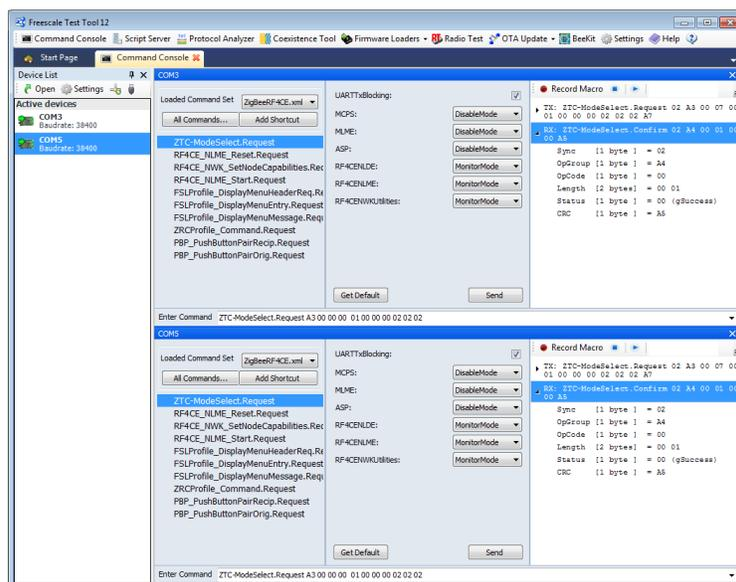

Figure 4-3. Send ZTC-ModeSelect.Request command
5. From Test Tool Command Console tool bar, click on All Commands ->ZTC Commands->ZTC-ModeSelect.Request command and select the parameters in the request as shown in Figure 4-3 to ensure that the board connection are working. Perform this step for both devices.